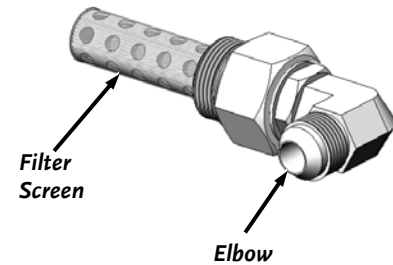

Figure 29
- Remove the Screen (with elbow) from the Tank with an Adjustable Wrench and clean any debris from the Screen or replace as needed (**Figure 29**).